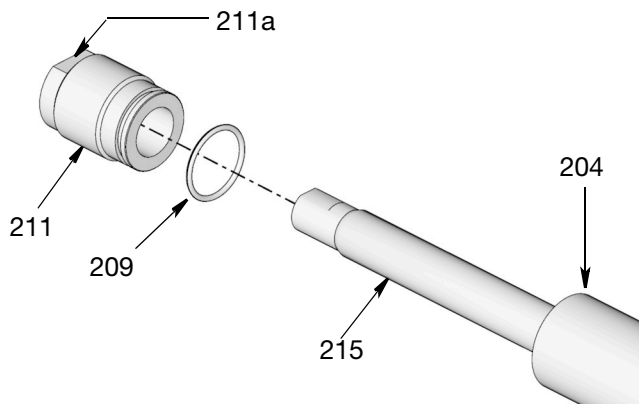

FIG. 30
- a. Use wrench on the flats of the priming rod (215). Remove the hex nut (219).
- b. Unscrew the shovel (216) and remove it from the priming rod (215).
17. Use a wrench on the flats (211a) of the seal retainer (211) and a strap wrench working in the opposite direction, on the pump cylinder (204), to loosen and remove the adapter and o-ring (209) from the pump cylinder (204) (FIG. 30). Discard o-ring. Use the new o-ring included in the kit for reassembly.